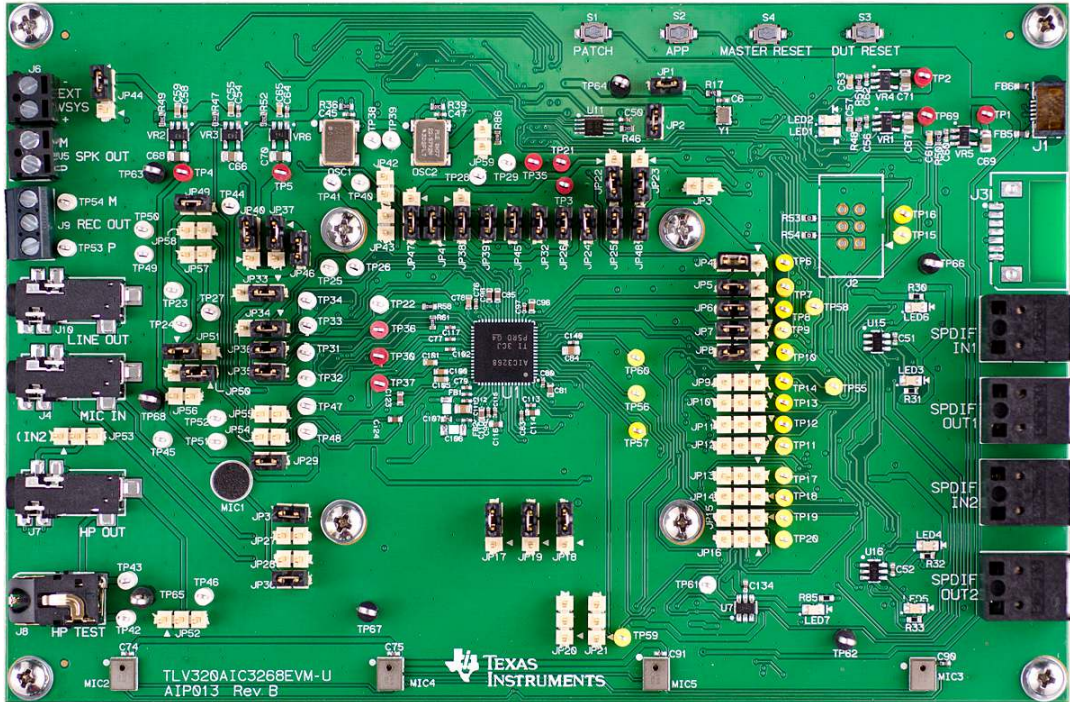
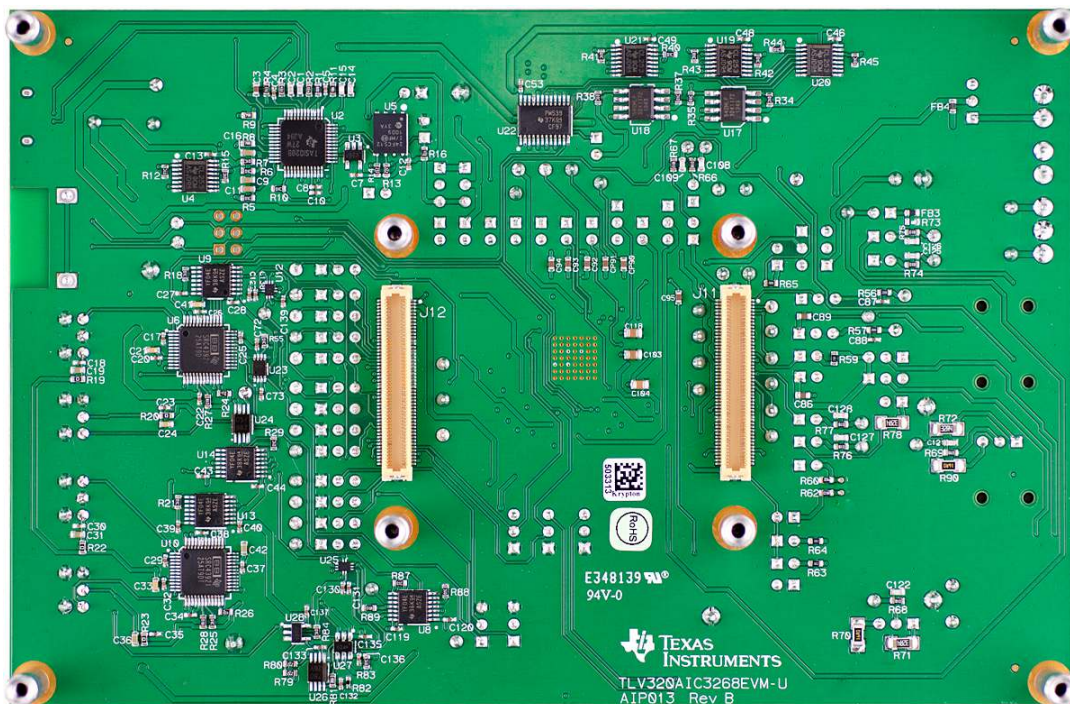

Figure 1. TLV320AIC3268EVM-U Top Board Photo
Figure 2. TLV320AIC3268EVM-U Bottom Board Photo
- One TLV320AIC3268EVM-U board using one TLV320AIC3268 (Figure 1 and Figure 2)